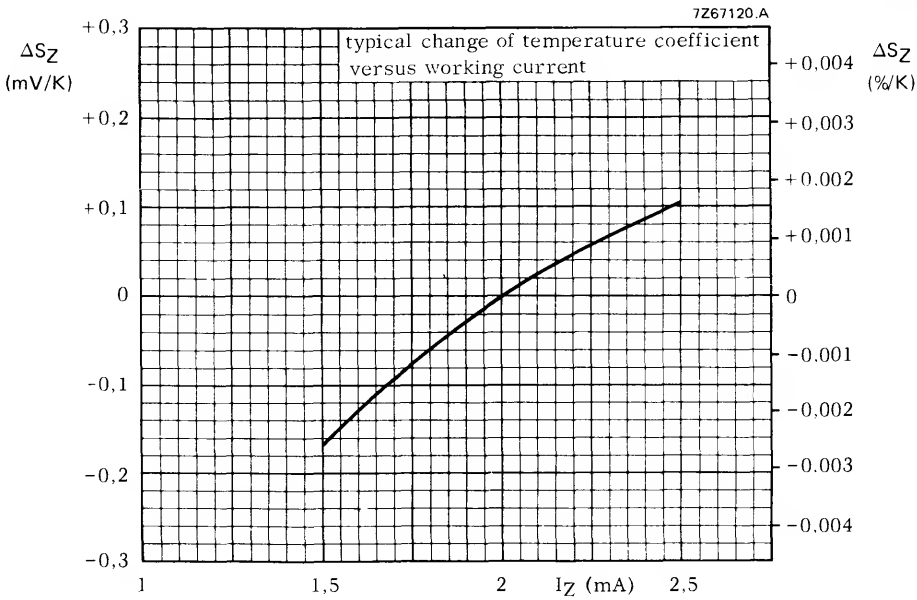

Fig. 3 Typical change of temperature coefficient.
* For accuracy of I_Z see Fig. 3.
b. The temperature coefficient of the reference voltage S_Z is a function of I_Z . Reference diodes are classified at the specified test current and the S_Z of the reference diode will be different at the different levels of I_Z . The absolute value of I_Z is important, however, the stability of I_Z , once the level has been set, is far more significant. This applies particularly to the BZV13 and BZV14. The effect of I_Z stability on S_Z is shown in Fig. 3.